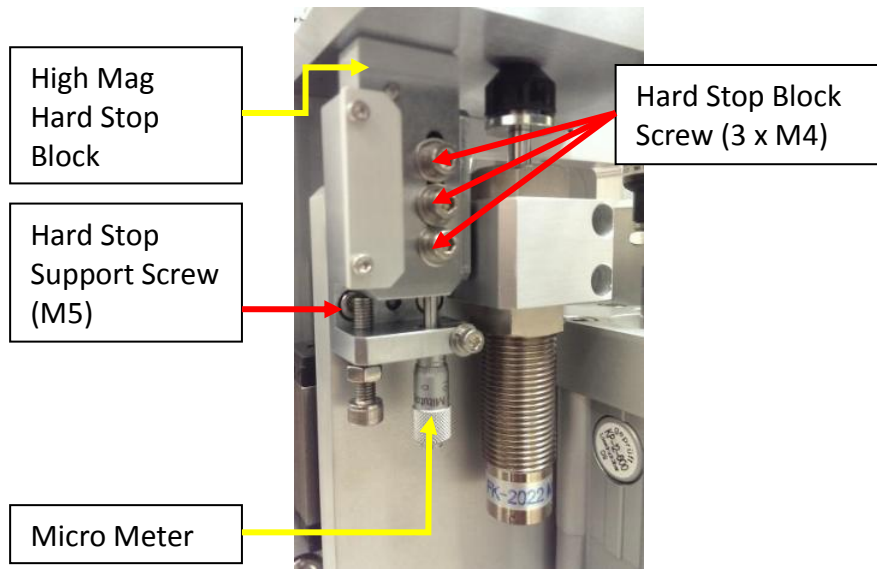

Figure 21 (New Rev)
27. High Mag Hard Stop and screws show as Figure 21.